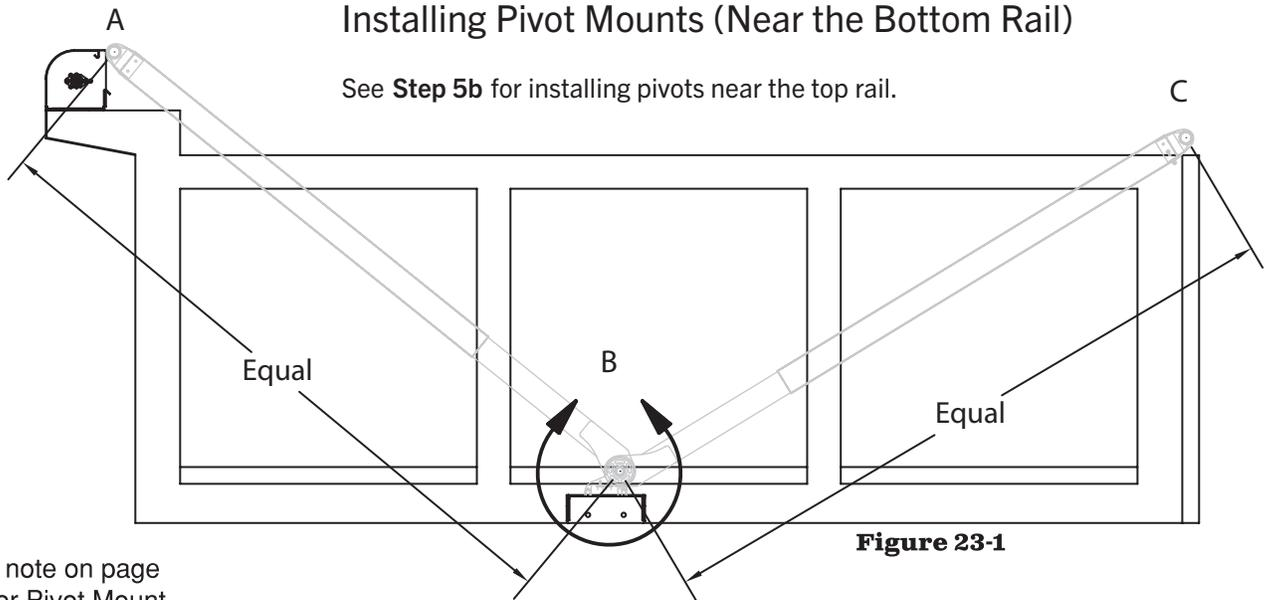
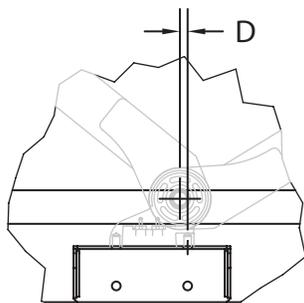

Figure 23-1
Figure 23-2
NOTE: Figure 23-1. Note that the pivot assembly pivot point (B) is one point of a triangle. The other two points (A & C) are on top of the truck. The two downwards-pointing legs of the triangle must be the same length. These steps will make sure that the two legs are equal. The D dimension shown in **Figure 23-2** indicates the amount of offset from the center of the pivot mounting hole to the center of the pivot point. This will change with the different size of pivots. See chart for offset dimension.
- 1) Mark the rear edge of the tarp housing or the mounting plate in line with the tarp roll up bar on the driver's side and passenger's side. Mark these points and call them (A).
- 2) Determine where you want the rear of the tarp to be when it fully covers the box. Mark these points and call them (C).
- 3) **Figure 23-1.** Find a point at the side of the box that is the same distance from A and C. This is point B, where the spring assembly will be mounted. Mark this point on both sides.